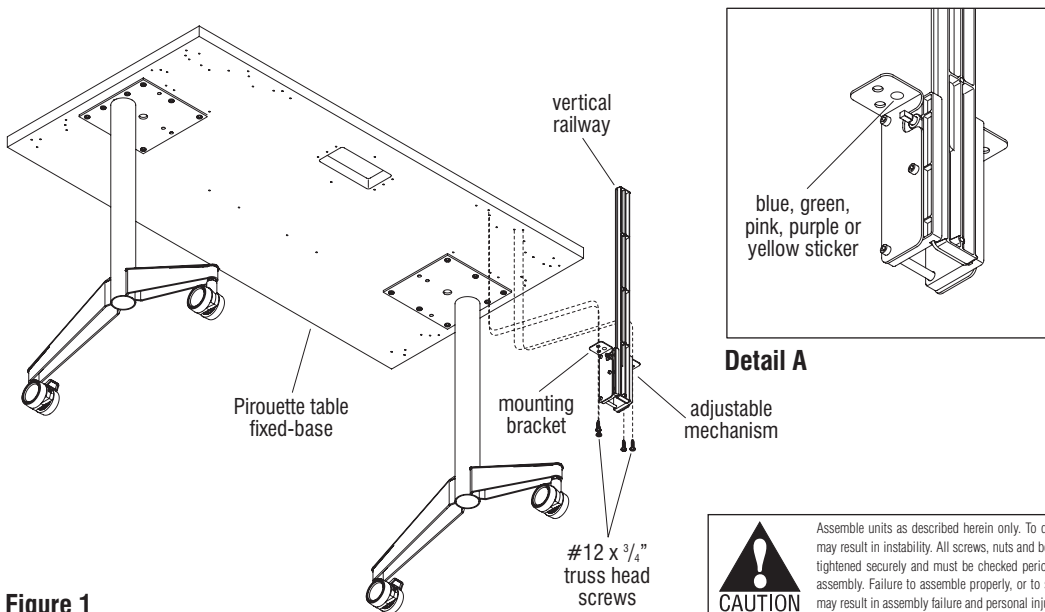

Figure 1
2. Locate an adjustable mechanism per the screen model being installed and position the mounting bracket to align with the pre-drilled holes on the underside of the tabletop. Secure mechanism to the underside of the tabletop using four #12 x 3/4" screws (Figure 1).